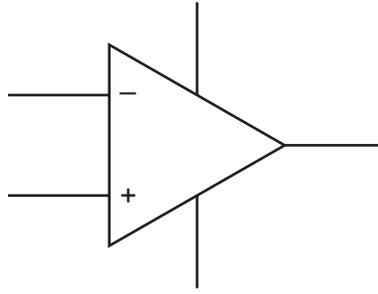

Fig. 11.5
- (c) Fig. 11.5 shows the circuit symbol for an operational amplifier (OP AMP) that will be used to compare two voltages in a circuit.